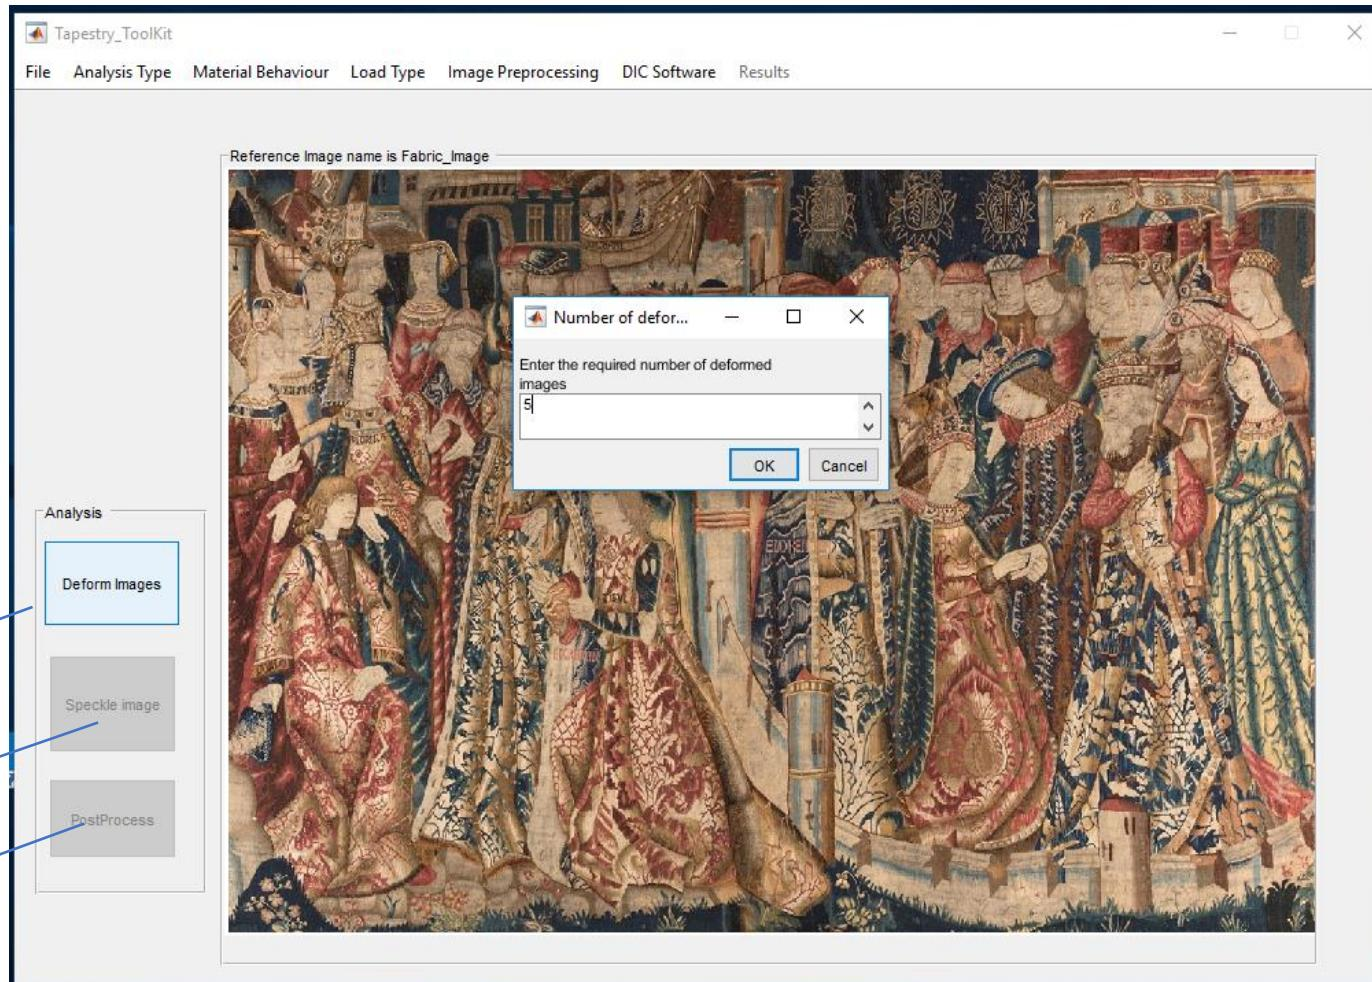

Figure 7
- Once the **Mesh Density** and **Scale Image** values have been entered and **ROI** selected, the **Deform Images** button becomes active (see Figure 7)!
4. If Yes, click the Speckle Image button (See Figure 7). Select your speckle image and press OK.